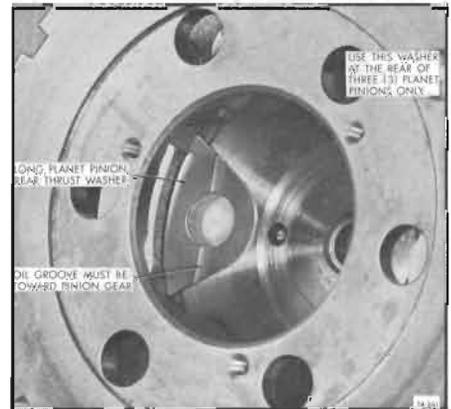

Figure 74-261
2. Start with the long planet pinion gears first. Install the long planet pinion rear thrust washer. Oil groove must be toward pinion gear. Retain thrust washer with grease. See Figure 74-261.